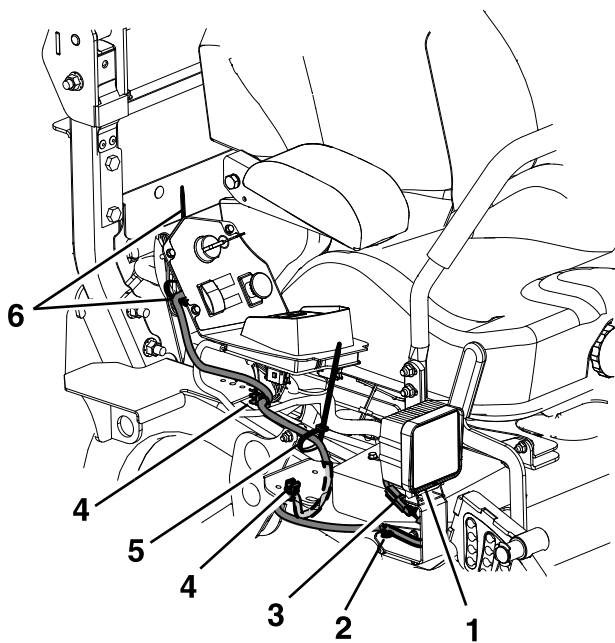

Figure 5
11. Connect the light harness to the RH light and secure it to the frame as shown in Figure 5.